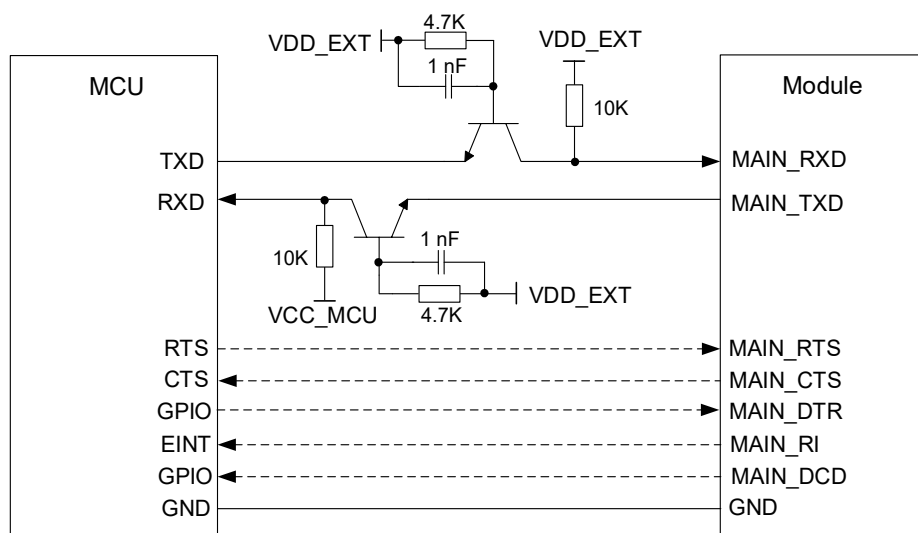

Figure 21: Reference Circuit with Transistor Circuit (Main UART)
3. The level-shifting circuits (**Figure 20** and **Figure 21**) take the main UART as an example. The circuits of the auxiliary UART are connected in the same way as the main UART.